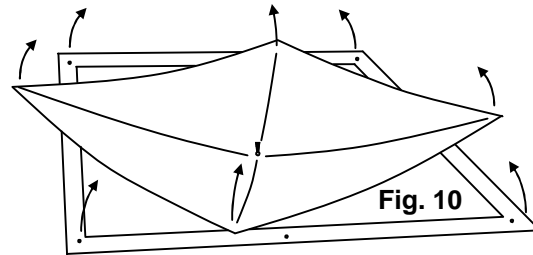

Fig. 10
4) Remove last Ice Anchor and Fold all corners up. (Fig. 10) & (Fig. 11)